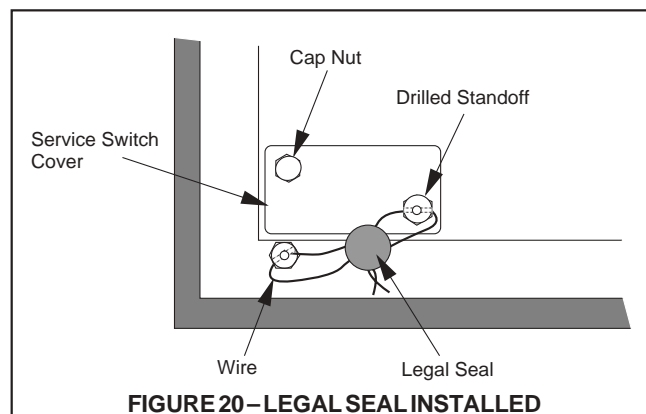

FIGURE 20—LEGAL SEAL INSTALLED
- (1) Set the Operate/Setup Switch to the OPERATE position.
- (2) Remove the backing from the switch cover gasket and apply the gasket to the switch cover.
- (3) Install the switch plate as shown and tighten hardware to 6 lb-in.
- (4) Thread the wire for the seal through the holes in both stand-offs and twist the ends of the wire together.
- (5) Install the seal on the wire loop as shown in Figure 20.